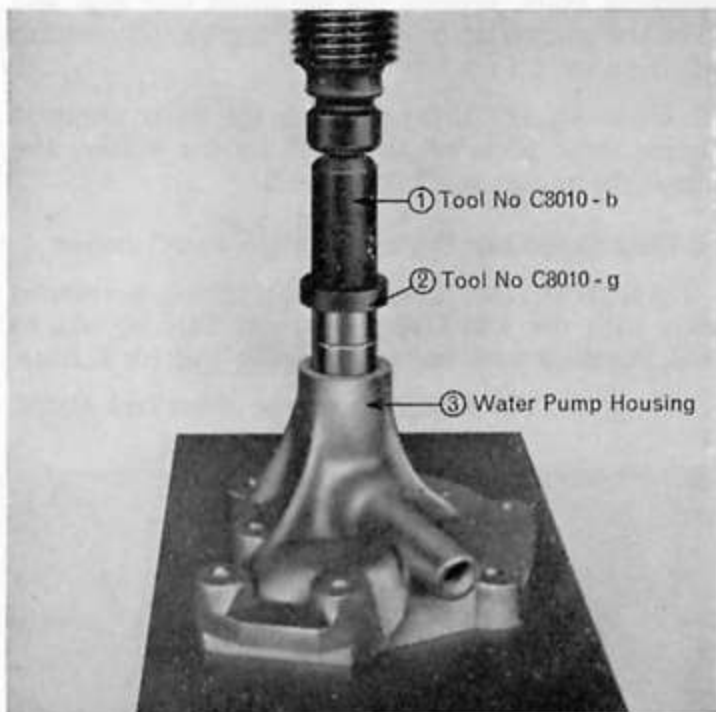

Fig. 3
2. Fit the shaft assembly into the housing, using adaptors C.8010-b and C.8010-g as shown in Fig. 3.